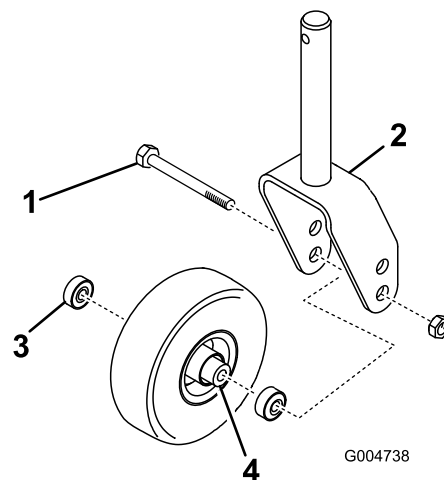
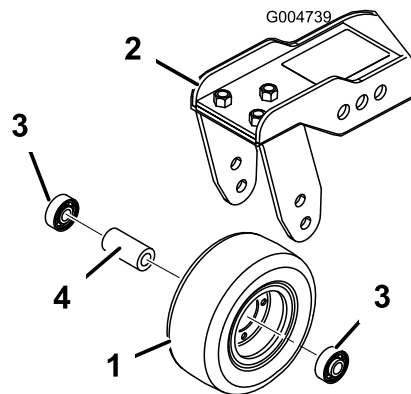

Figure 82
Figure 83
or the castor pivot arm (Figure 83). Grasp the castor wheel and slide the bolt out of the fork or pivot arm.
1. Remove the locknut from the bolt holding the castor wheel assembly between the castor fork (Figure 82)
2. Remove the bearing from the wheel hub and allow the bearing spacer to fall out (Figure 82 and Figure 83). Remove the bearing from the opposite side of the wheel hub.